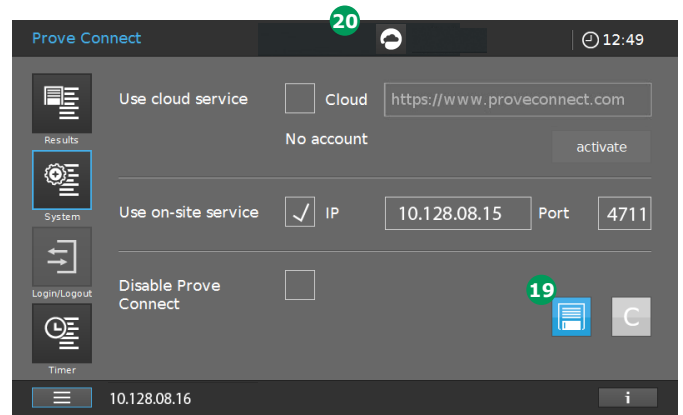

Figure 33 - Screen of Spectroquant® Prove / Prove plus with all network details
14. After setting all properties (Checkmark, IP and Port) press the save icon 19 (Figure 33).
The Spectroquant® Prove / Prove plus is now connected to your local Network. When the network is established the cloud icon 20 appears in the instrument display (Figure 33). The Spectroquant® Prove / Prove plus is now ready to transfer data to Prove Connect. All measurements are now transferred to the Prove Connect application.